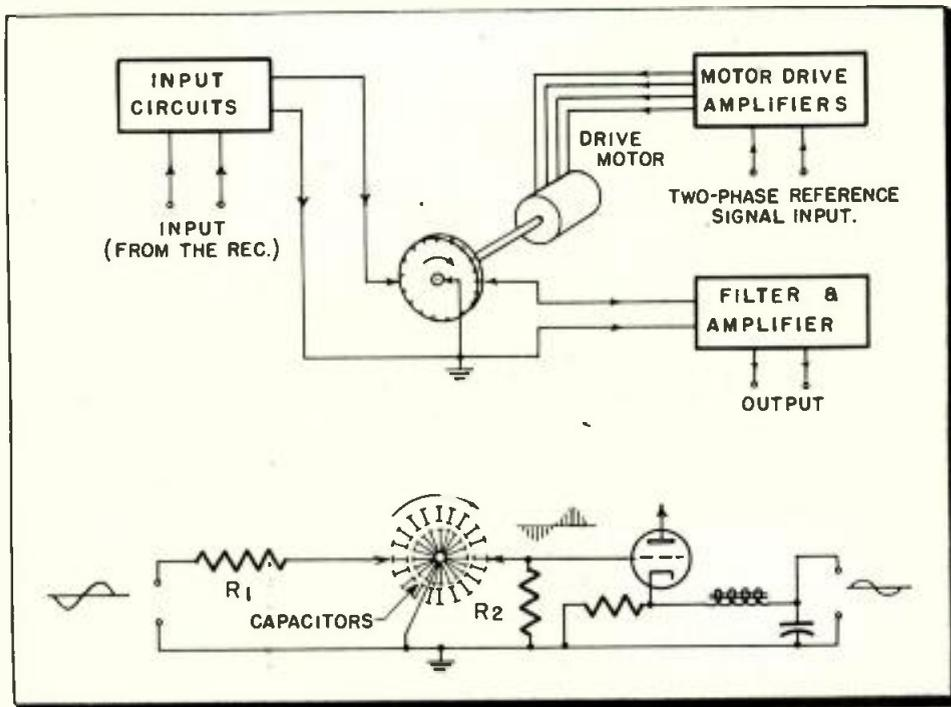

Fig. 5: Rotating capacitor drum is driven in synchronization with directing finding antenna
C. The third type of post detector integrator consists of a capacitor drum as the storage unit, suggested by Mr. H. Busignies and M. Dishal.2 In this storage system a drum is made up of several large capacitors and driven in synchronization with the Direction Finding antenna. The signal output of the receiver is applied directly to the capacitors on the drum through one brush and, the integrated output is read off at a later item through another brush. Fig. 5 shows the circuit and block diagram.